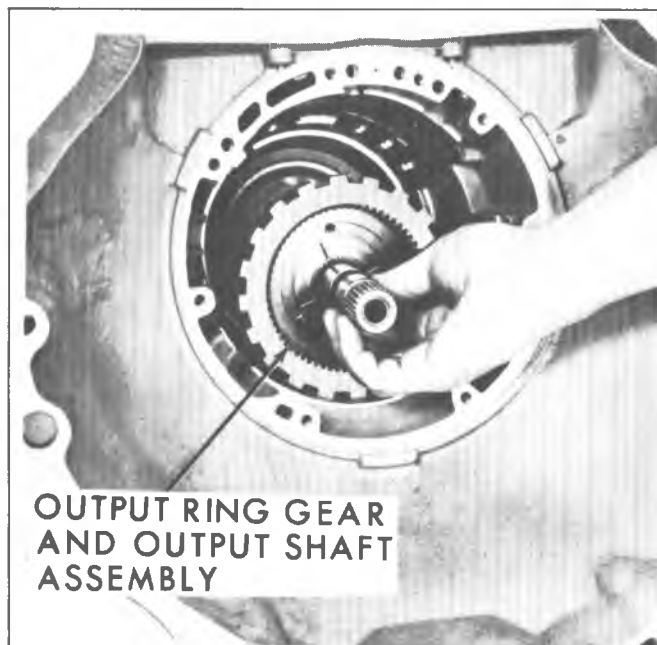

Fig. 42M--Removing Output Ring Gear and Shaft Assembly
18. Remove output ring gear and shaft assembly from case (fig. 42M).